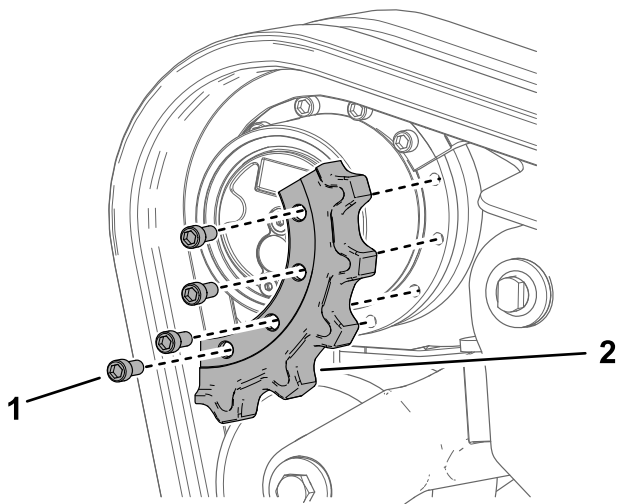

Figure 70
- Remove the sprocket segment (Figure 70).
- Apply thread-locking compound to the bolts of 1 drive sprocket segment that you removed and install the sprocket segment (Figure 70). Torque the bolts to 247 to 301 N·m (182 to 222 ft-lb).